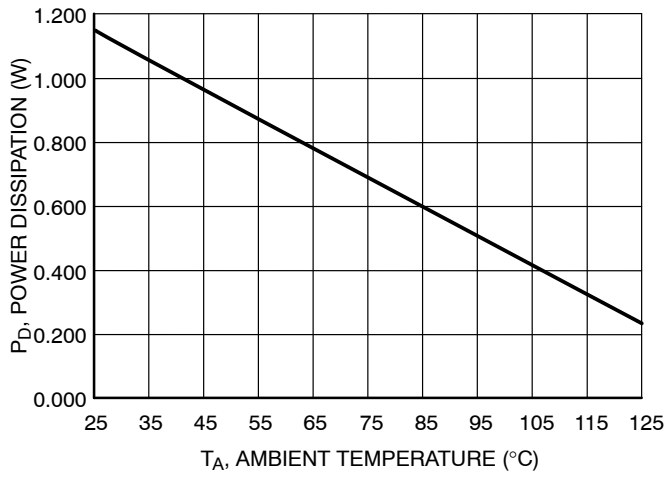

Figure 3. Total Power Dissipation (P_D) vs. Ambient Temperature (T_A)
9. If $P_{D_total} > 1.13 \text{ W}$ (or derated value per Figure 3), then select the most appropriate recourse and repeat steps 1–8:
- If $P_{D_total} > 1.13 \text{ W}$ (or derated value per Figure 3), then select the most appropriate recourse and repeat steps 1–8: